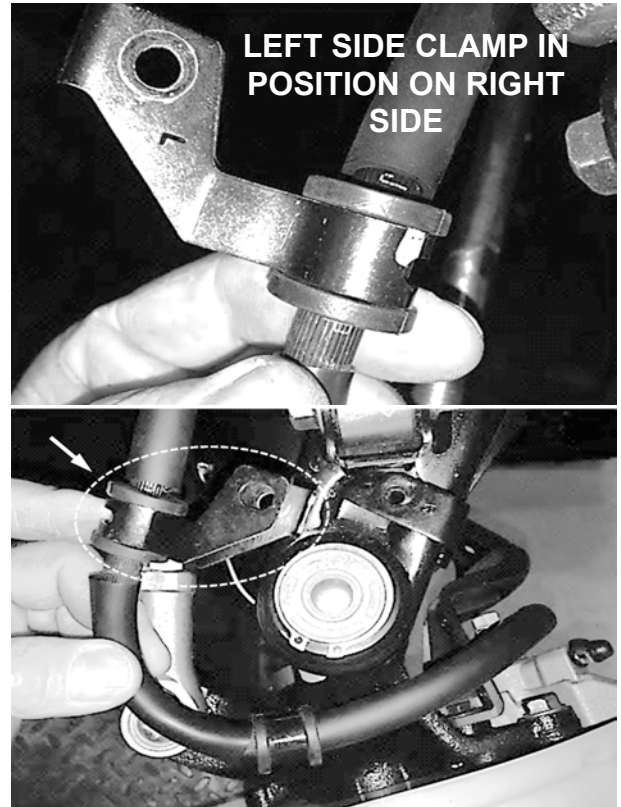

Fig. 14
4. Exchange clamps (B) of both sides of the vehicle. See Fig. 14